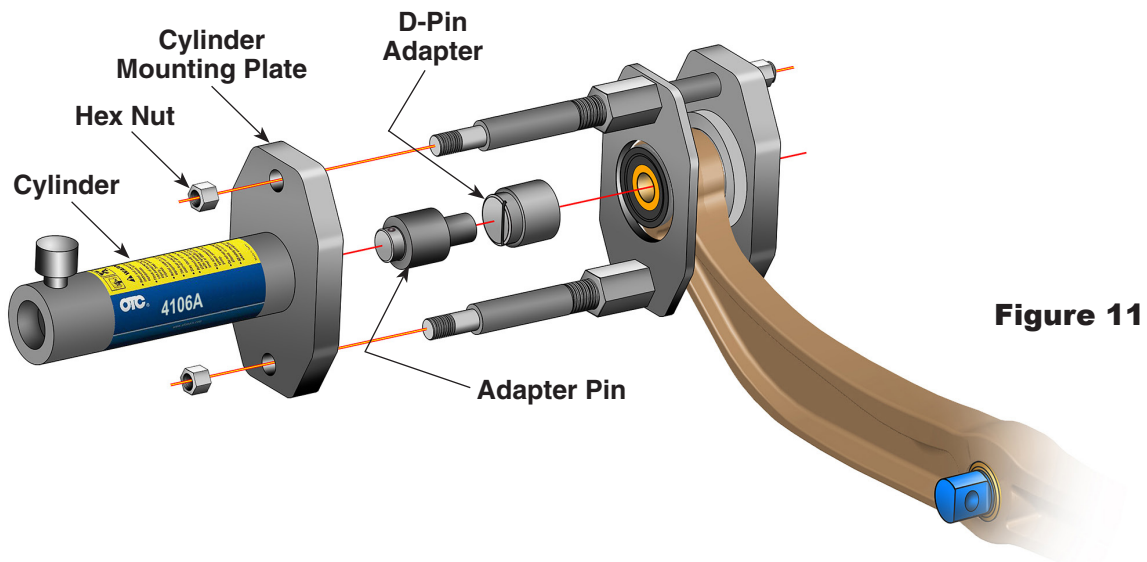

Figure 11
8. Thread the cylinder into the cylinder mounting plate. See Figure 11.